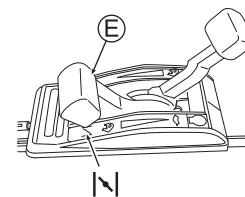

Fig. 12
3. Set the throttle lever (E) to choking "N". (See Fig. 12) (The engine can start by setting the lever at "N" when it is warm.)